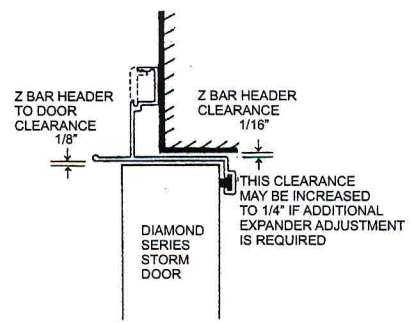

Figure 5
4. Place Door Assembly into opening and allow 1/16" clearance between Header Z Bar and Exterior Door Frame. (Fig. 5) Hinge side Z Bar should be tight against Jamb Mounting Surface. Fasten Hinge Side Z Bar with a screw at top and bottom, then check with a level to make sure Hinge Side Z Bar runs straight up and down. Install remaining screws.
6. Place Door and Hinge Side Z Bar into Exterior Door opening. Hinge Side Z Bar should be tight against jamb Mounting Surface with an 1/8" gap at the head. (Fig. 5) Fasten Hinge Side Z Bar with a screw at top and bottom, then check with a level to make sure Hinge Side Z Bar runs straight up and down. Install remaining screws